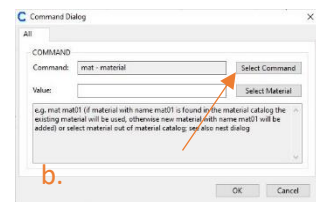

Figure 67
(2) Add labels using the NestKing command tool:
- Click on the **Select Command** (Figure 67).